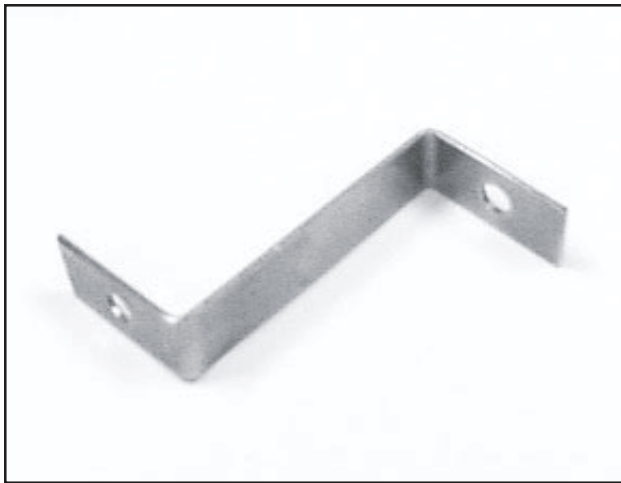
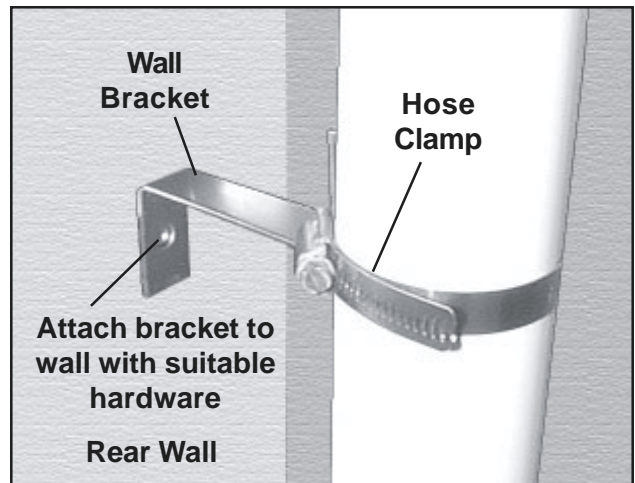

Figure 39. Wall Bracket for Air Intake Pipe
Figure 40. Air Intake Pipe with Wall Bracket
2. With a wall bracket (Figure 39) and a hose clamp, fasten the air intake pipe to the rear wall using suitable mounting hardware (Figure 40). Fasten the pipe to the wall anywhere between one to two feet from the bottom of the pipe, but not interfering with either of the air fittings. This stabilizes the intake pipe and prevents damage to the threaded coupling connection if the pipe is accidentally struck.